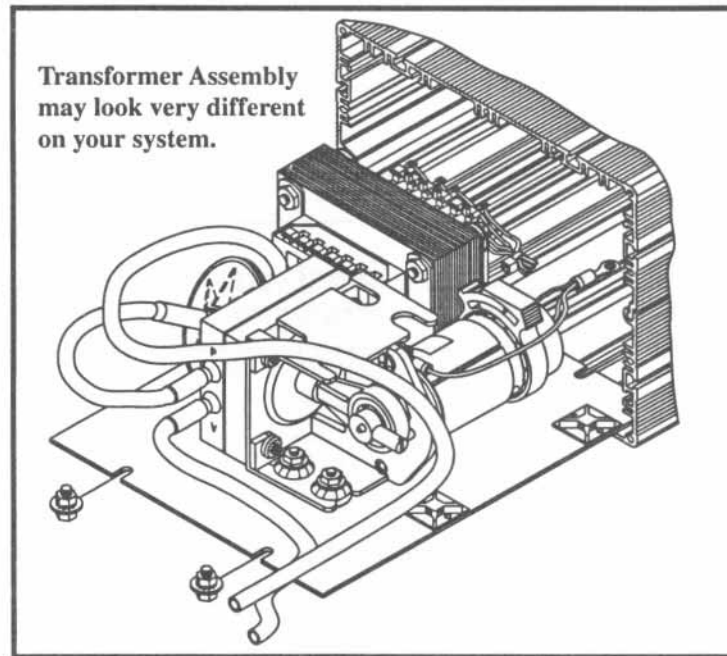

Figure 8. Removing Transformer Assembly
13. Carefully place the PC Board on top of the transformer assembly and reconnect panel cabling and hoses removed in steps 7 and 8 (see Figure 8). Note that if the system has 2 hoses, the lower hose connects to the **AUTO SNAP-VAC Port** (or **SNAP-VAC Port**). Check to insure that the PC Board is not shorting to the transformer or motor pump assembly.